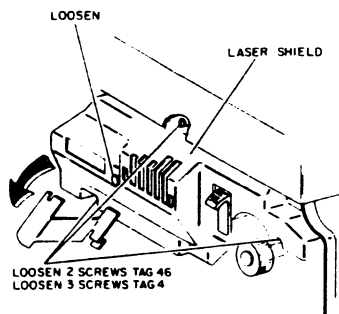

Figure 2. Removing the Laser Shield
- b. With Tags 4 and 46 (Figure 2)